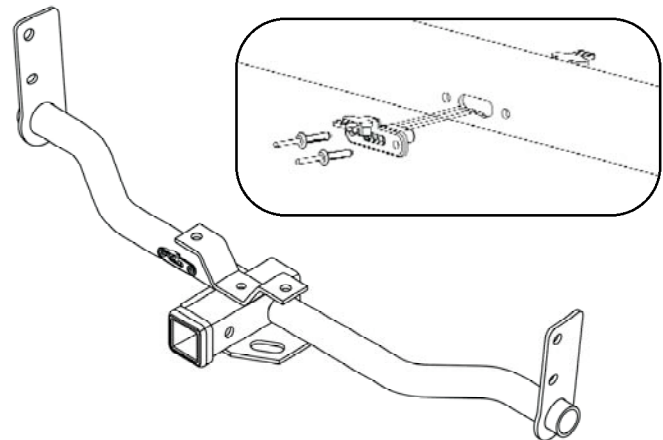

FIG. 1
2. Open the vehicle's tailgate and using a Torx-15 driver, remove two fasteners from both the left (driver's) and right (passenger) side tail light assemblies (Fig. 1). Carefully pull the tail light assembly away from the vehicle, taking care not to damage the alignment pins.